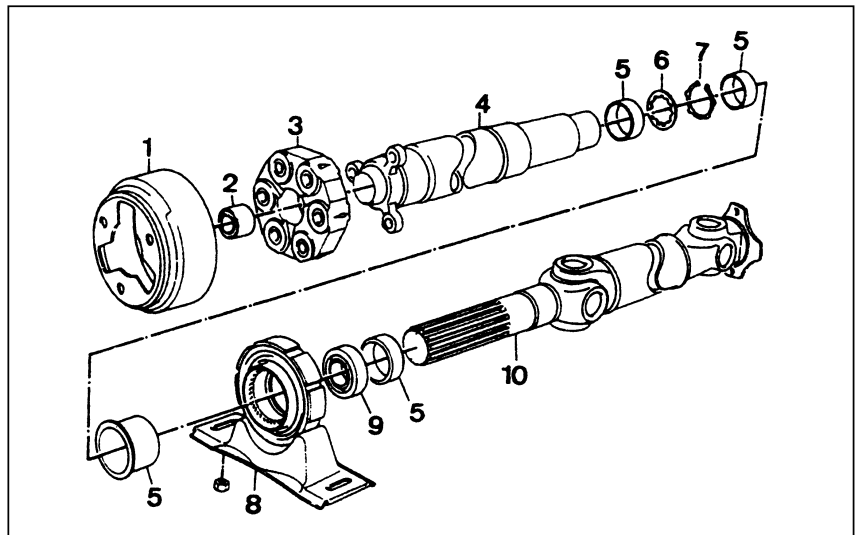

Figure 3 Cardan shaft (4) with flexible coupling (3), centre bearing (8) and prop shaft (10) with double universal joints.
- Unscrew the bolts of the flexible rubber coupling at the end of the gearbox. Mark the position of the displaceable centre bearing, then unscrew the nuts holding it (Figure 3) and remove the flexible coupling.